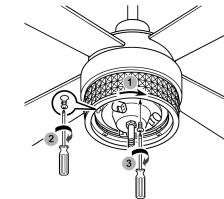

FIG.17
6. Place the light kit plate into the light kit match with loosen screws. Rotate the light kit plate in a counter clockwise(to the right direction) until it is held. And tighten the screws. (see Fig.17)